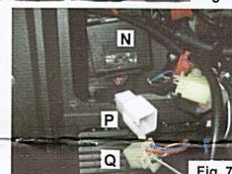

Fig. 7
13. Disconnect the white plug from the remote receiver wire (Fig. 7, P & Q), and install the white jumper wire from the cold start valve assembly to both of those connectors (Fig. 7—A connects to P, and B connects to Q).